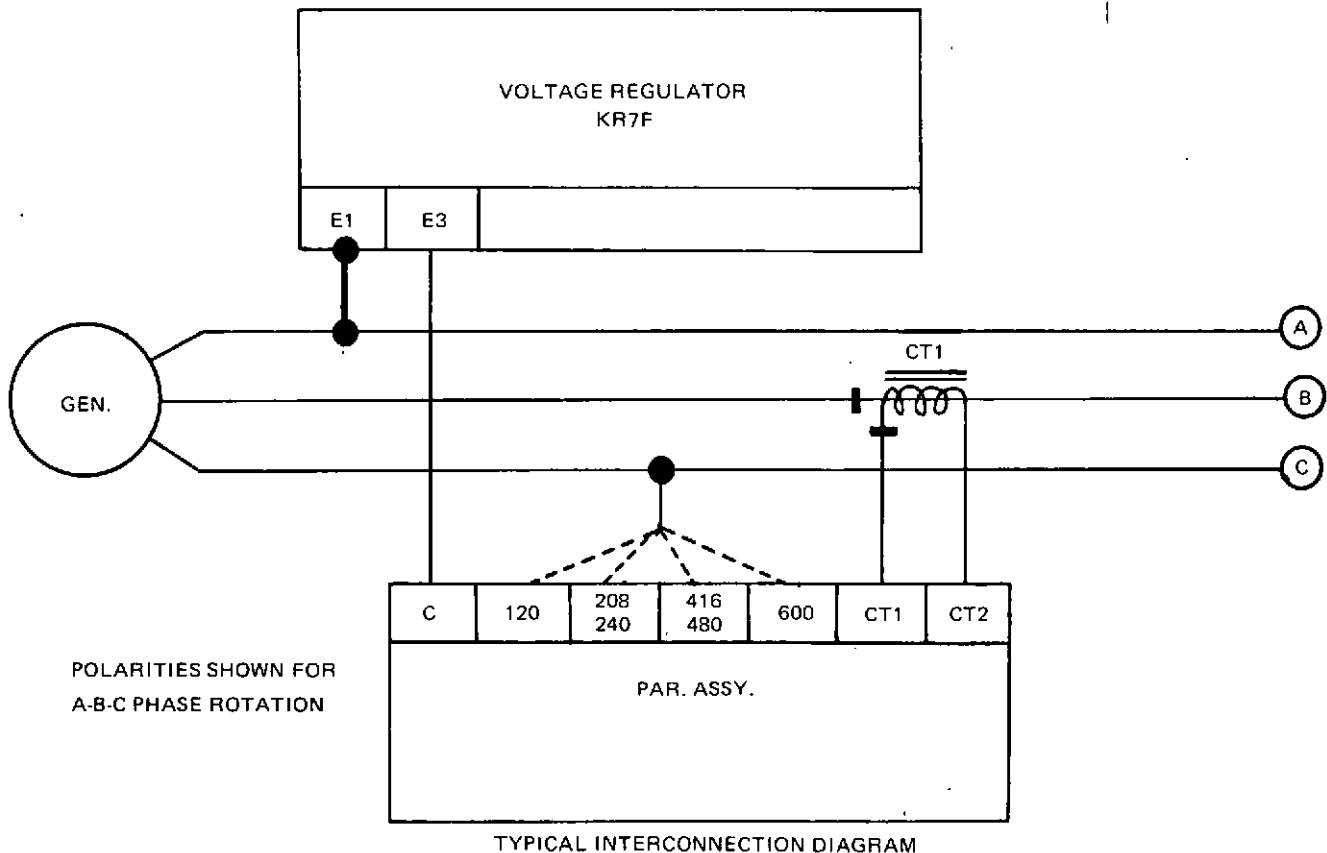

Figure 1. Typical interconnection diagram.
9. If cross-current compensation is desired, Figure 1 is applicable with the following additional connections. Connect the finish of the parallel current transformer (CT1) on generator System Number 1, to the start of the parallel CT on generator System Number 2; the finish of the parallel CT in System Number 2 to the start of the parallel CT in System Number 3; etc. Continue until all parallel CT's of the systems to be paralleled are connected in series; then connect the finish of the last CT to the start of the first CT.